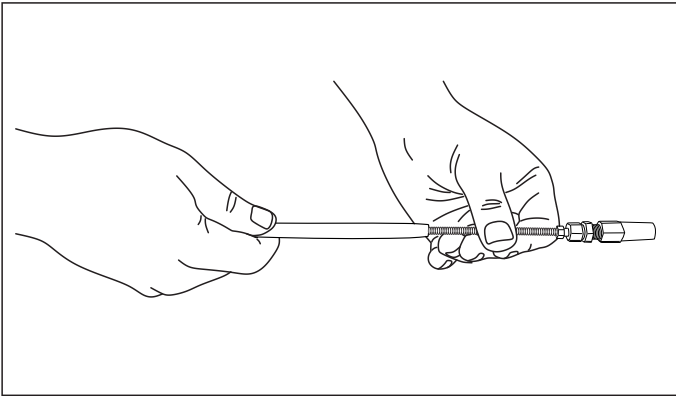

Fig. 4
- Open the turnbuckle's long screws without completely removing them (Fig.4).